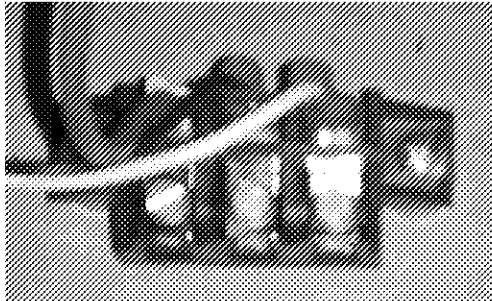

Figure 5
8. Connect the White (NEUTRAL) input power wire using the spade connector to the bus bar located in the fixture as shown in fixture Figure 5.
9. Connect the Black (HOT) input power wire using the spade connector to the bus bar located in the fixture as shown in Figure 5.
10. Connect the Green (GROUND) wire using the spade connector to the bus bar located in the fixture as shown in Figure 5. The grounding of the luminaire housing shall be maintained.